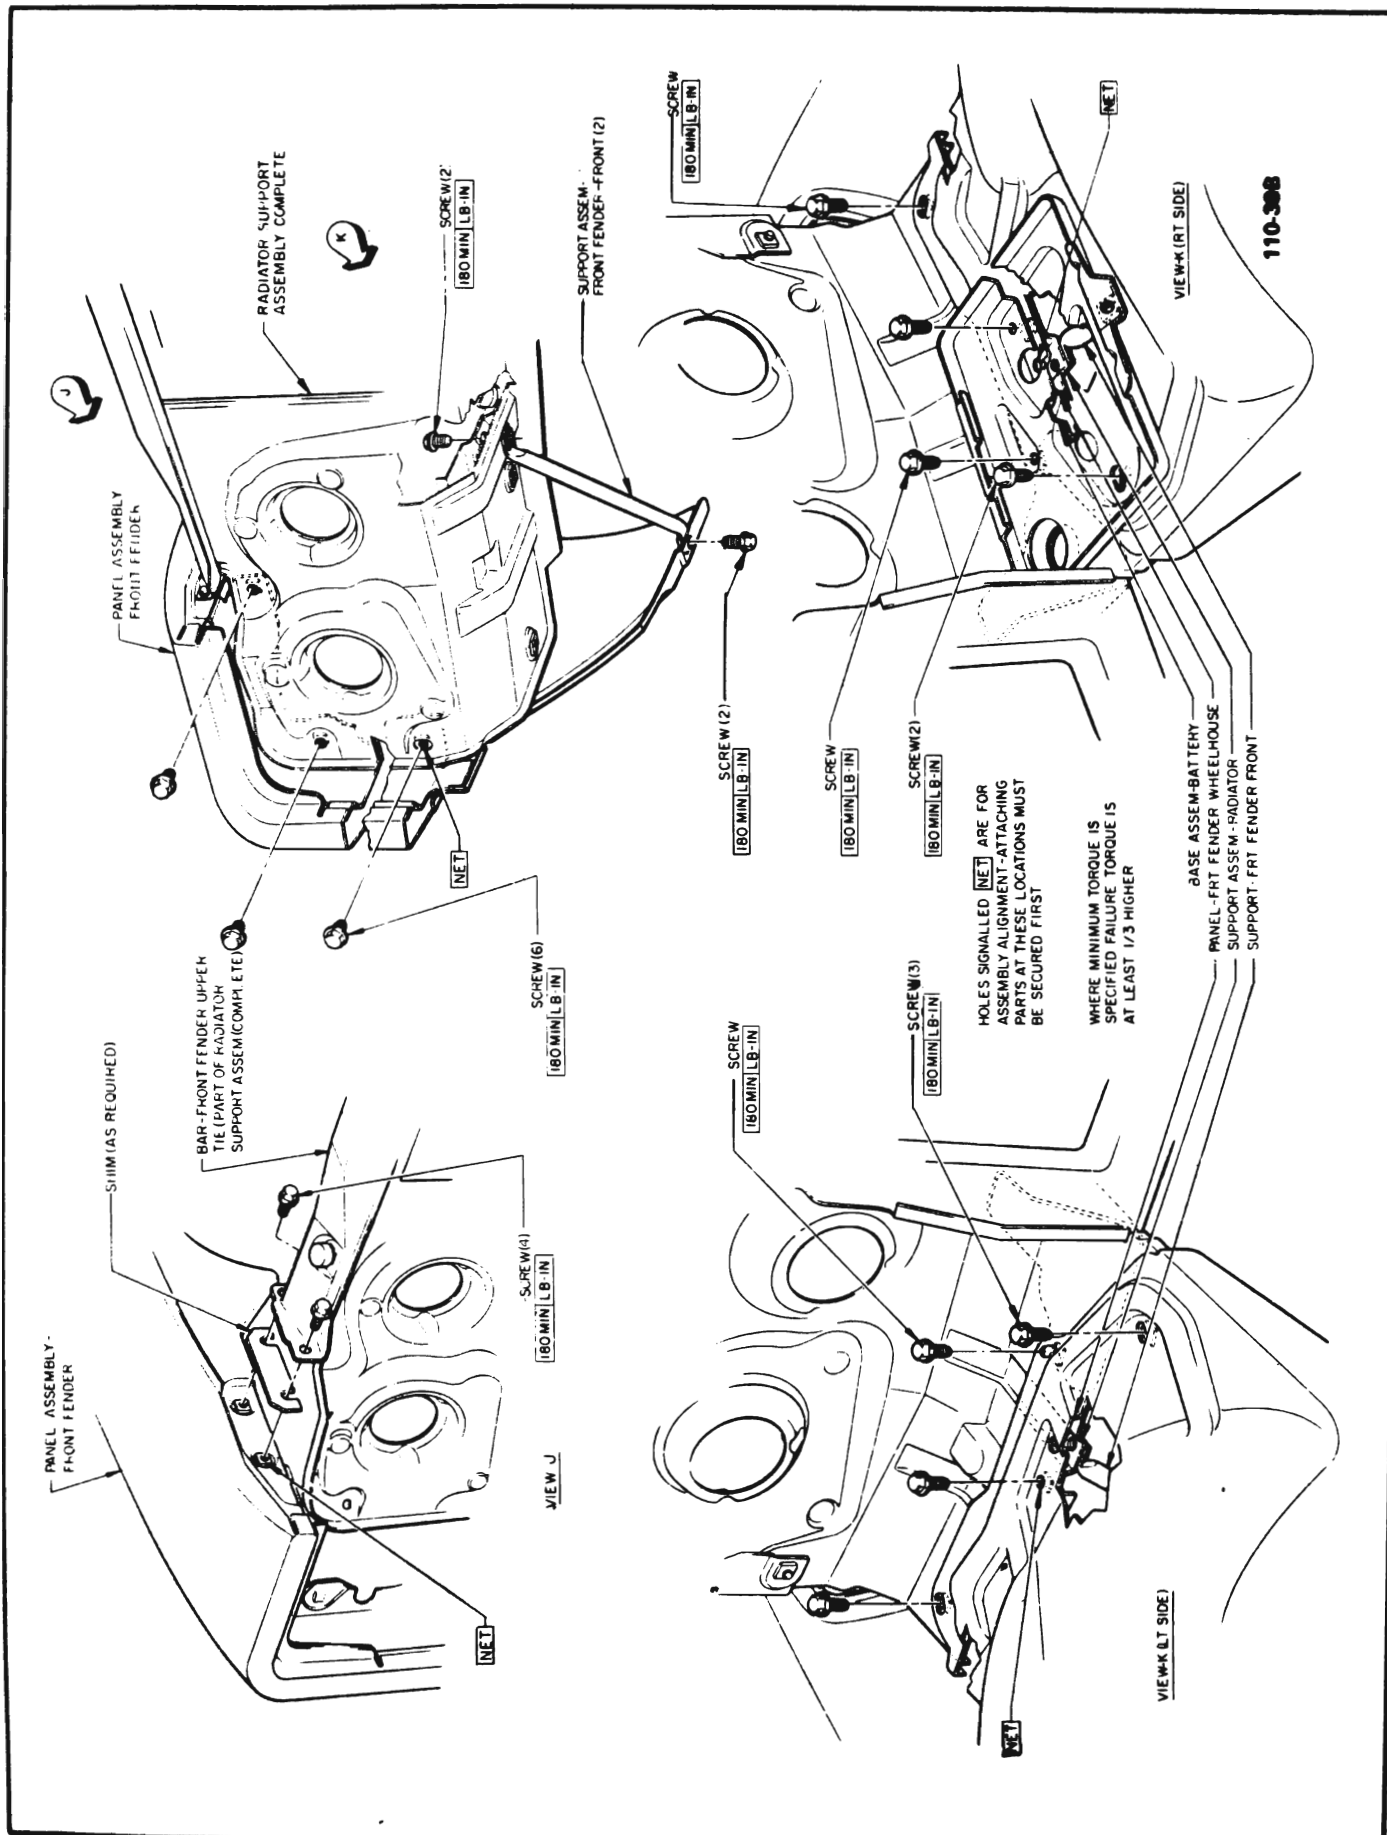

Figure 110-4 43-44000 Radiator Support, Battery Base
3. Remove bolts securing battery base (or skirt) to radiator support and fender skirt. Lift out battery base. See Figure 110-4.
7. Remove bolt securing lower front fender brace to fender. See Figure 110-4.
15. Remove two bolts securing fender to upper tie bar. See Figure 110-4.